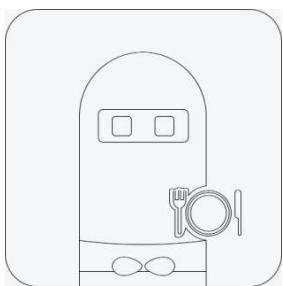

Figure 4 Icon of the PEANUT APP
- ① After booting the power switch, the system desktop will display the startup LOGO, PEANUT animation and Android desktop in sequence, and the system booting duration is about 40s.
- ② Under the default setting, the system will start the PEANUT APP automatically after it is booted. If the system fails to boot the PEANUT APP, please find the PEANUT icon on the desktop, as shown in Figure 4, and click this icon to boot the APP.